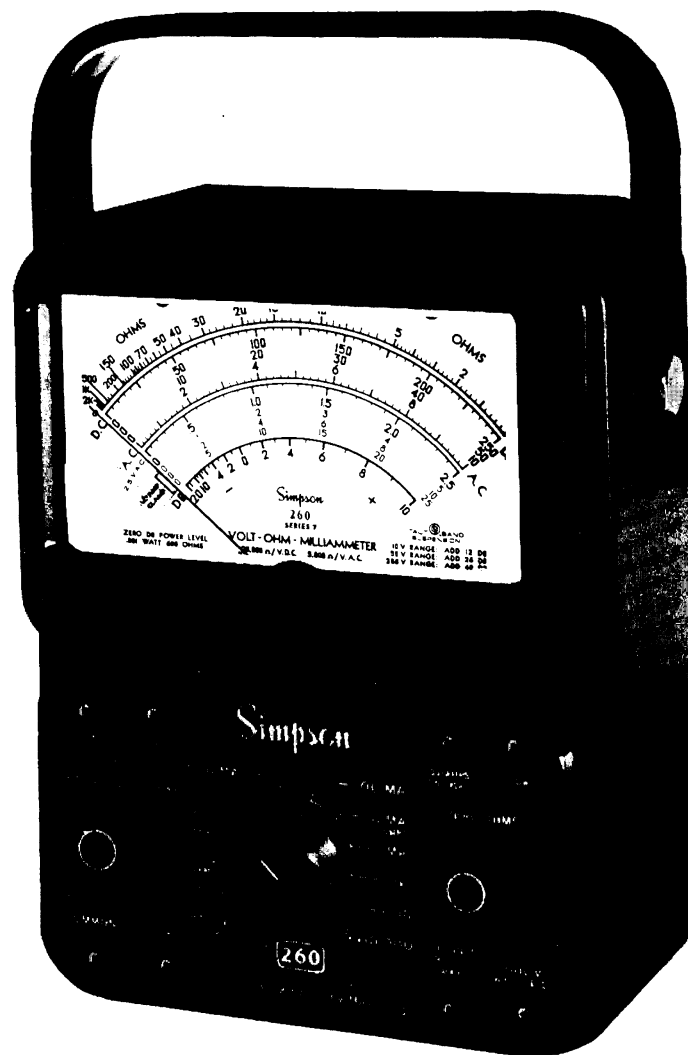

FIGURE 1-1. SIMPSON 260-7 VOLT-OHM-MILLIAMMETER
**1.1.1** The Simpson Volt-Ohm-Milliammeters 260 Series 7 and Series 7M (hereafter referred to as the 260 or as the Instrument), are identical instruments electrically and mechanically, except that the Series 7M is equipped with a mirrored dial to eliminate parallax (Figures 1-1 and 1-2). The 260 Series 7 is a rugged, accurate, compact, easy-to-use instrument. The Instrument can be used to make accurate measurements of AC and DC voltage, direct current, resistance, decibels, and Output Voltage. The Output Voltage function is used for measuring the AC component of a mixture of AC and DC voltage. This occurs primarily in amplifier circuits.